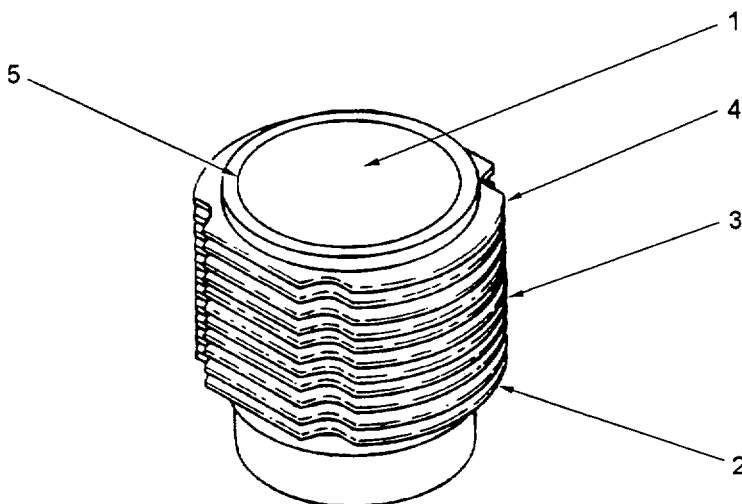

Figure 6-27. Cylinder Check
6.4.5 Check Cylinder. (Refer to figure 6-27.)